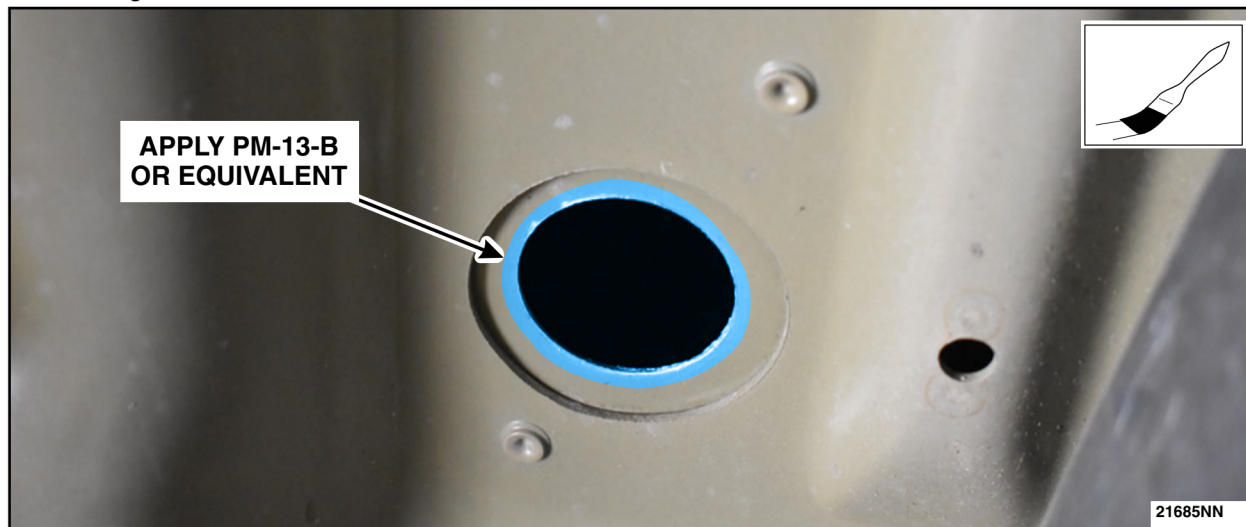

FIGURE 41
45. Following the directions on the can, liberally apply some PM-13-B Anti Corrosion Coating or equivalent to the edge and surface around the hole drilled into the floor board. Allow to fully dry. See Figure 41.